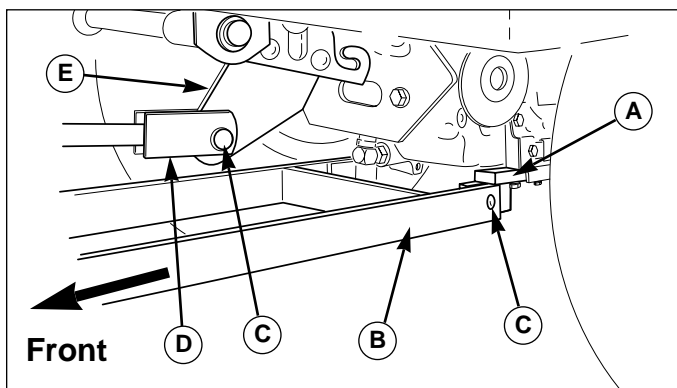

Figure 13. Rear Brackets & Lift Extension
2. Attach the rear end of the ladder hitch (B, Figure 13) to the rear hitch brackets (A) using two 5/8 x 1-5/8" flat head clevis pins (C) and safety clips.